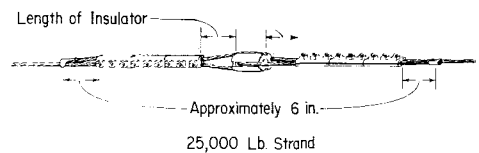

Fig. 11—Installing Strain Insulator in 25M Strand
- (e) **25,000 Pound Strand:** Use a B strand grip on each side of the insulator. Alternatives: Use three 3-bolt guy clamps on each side of the insulator. (See Fig. 11.)